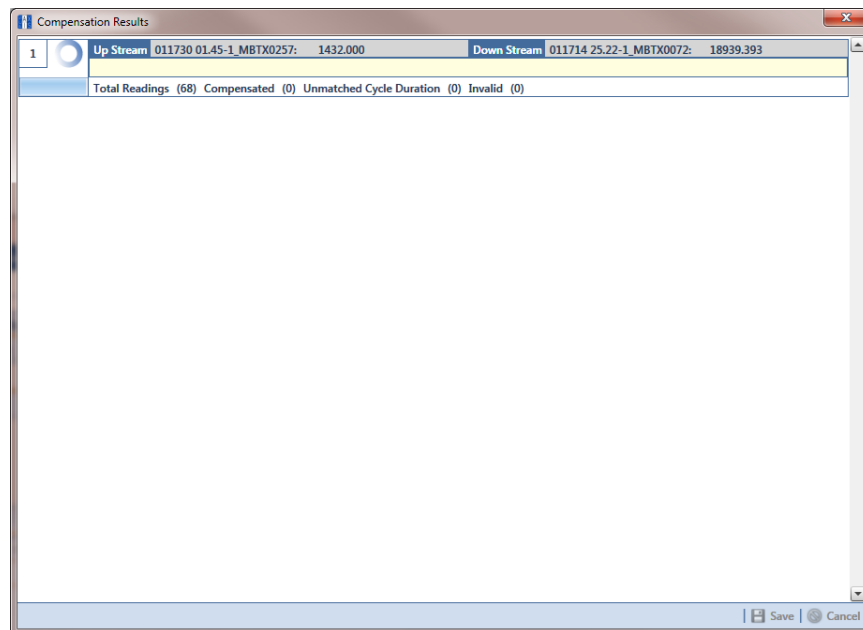

Figure 14-22. Compensation Results
- b Click  **Run** to begin the compensation process and open the *Compensation Results* window (Figure 14-22).